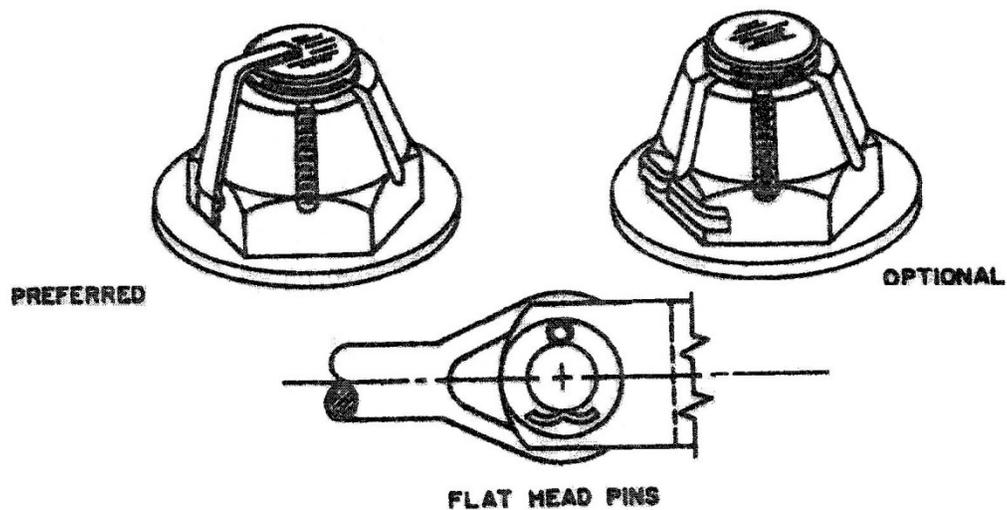

Figure 4-5. Pin Installation
There are two methods of installing cotter pins. (1) Where one end of the cotter pins goes over the top of the nut and (2) where ends go around the flats of the nut (see Figure 4-5). The first method is preferred and should be used whenever possible, except for human safety precautions, interference with clothing or equipment, and flat head pins.